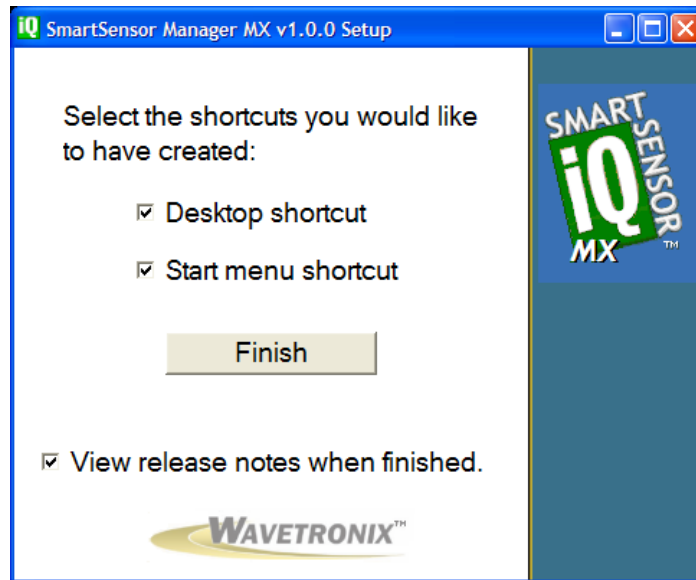

Figure 3.4 –Shortcut Options (New Screenshot Needed)
5. After SSMMX is installed, you can create shortcuts to the SSMMX software on the desktop and in the start menu using the corresponding checkboxes (see Figure 3.4). If no shortcuts are desired, uncheck the corresponding boxes.
3. Click the **Pocket PC** checkbox and then the **Next>>** button to install SSMMX on a connected Pocket PC device (see Figure 3.4). If both the **Computer** and **Pocket PC** boxes are checked, the setup program will first install the SSMMX software to the PC.